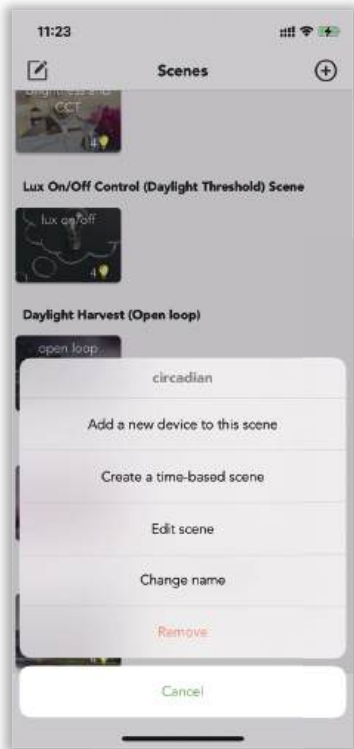
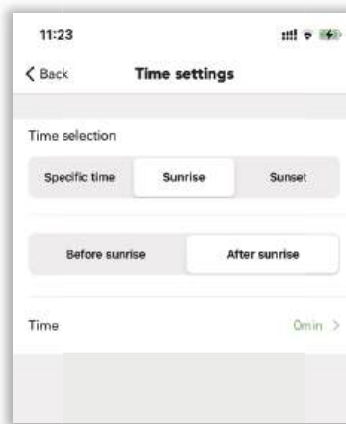
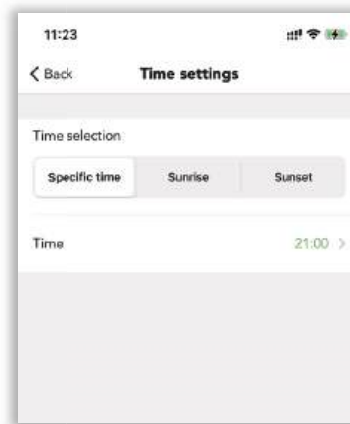

Figure 6.36 Create time-based scene
Figure 6.37 First scene
Figure 6.38 Second scene
Step 4. Long press on the “circadian” scene to access the time-based scene tab (see figure 6.36). Then for the first scene, please select the “circadian” scene, and define the time to sunrise (see figure 6.37). For the second scene, choose the “100% brightness” scene and define the time to 21:00 (see figure 6.38). Save the scene.